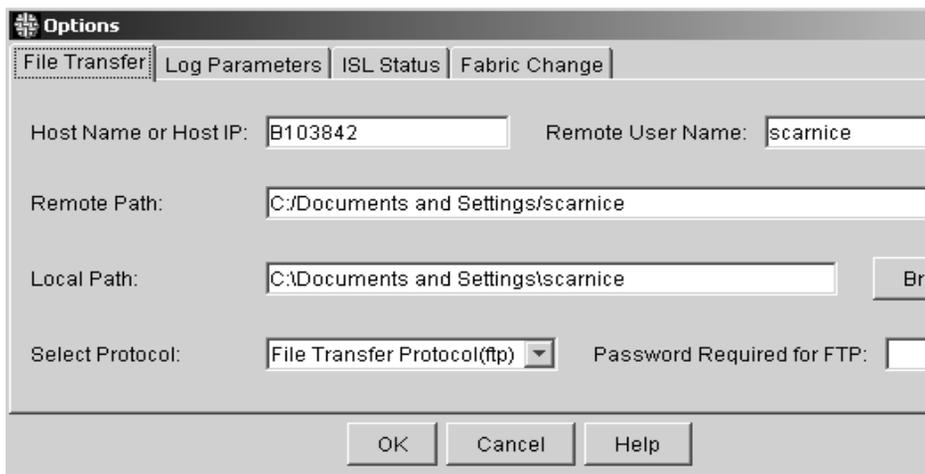

Figure 10: File Transfer tab of the Options dialog box
2. Click **File Transfer** tab. The **File Transfer** tab displays, as shown in Figure 10.